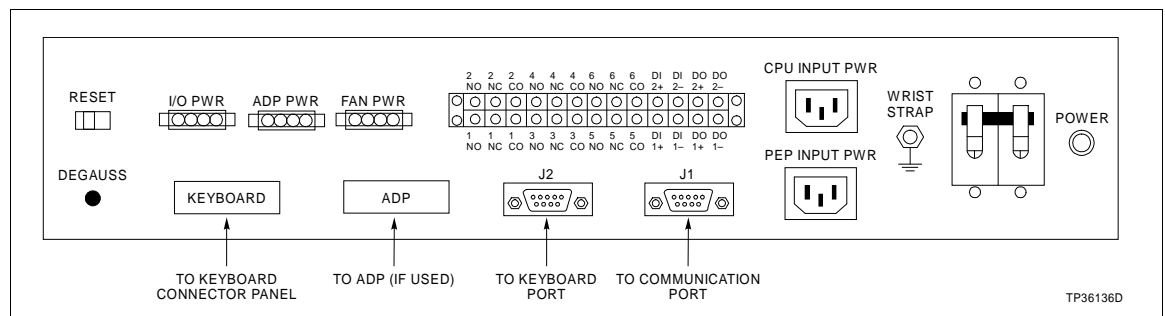

Figure 3-15. IIOIC424 Panel Mount Power Entry Panel Connections
2. Refer to Figure 3-15 for AC input location.